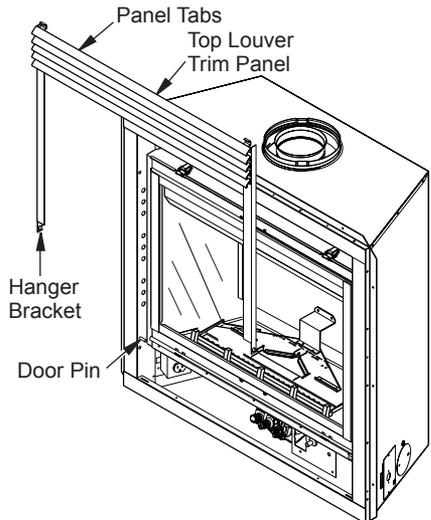

Figure 57 - Removing Top Louver Trim Panel
1. Grasp two hanger brackets at bottom and pull up until hanger brackets release from door pins (see Figure 57).
2. Remove top louver trim panel (see Removing Top Louver Trim Panel and Figure 57, page 30).